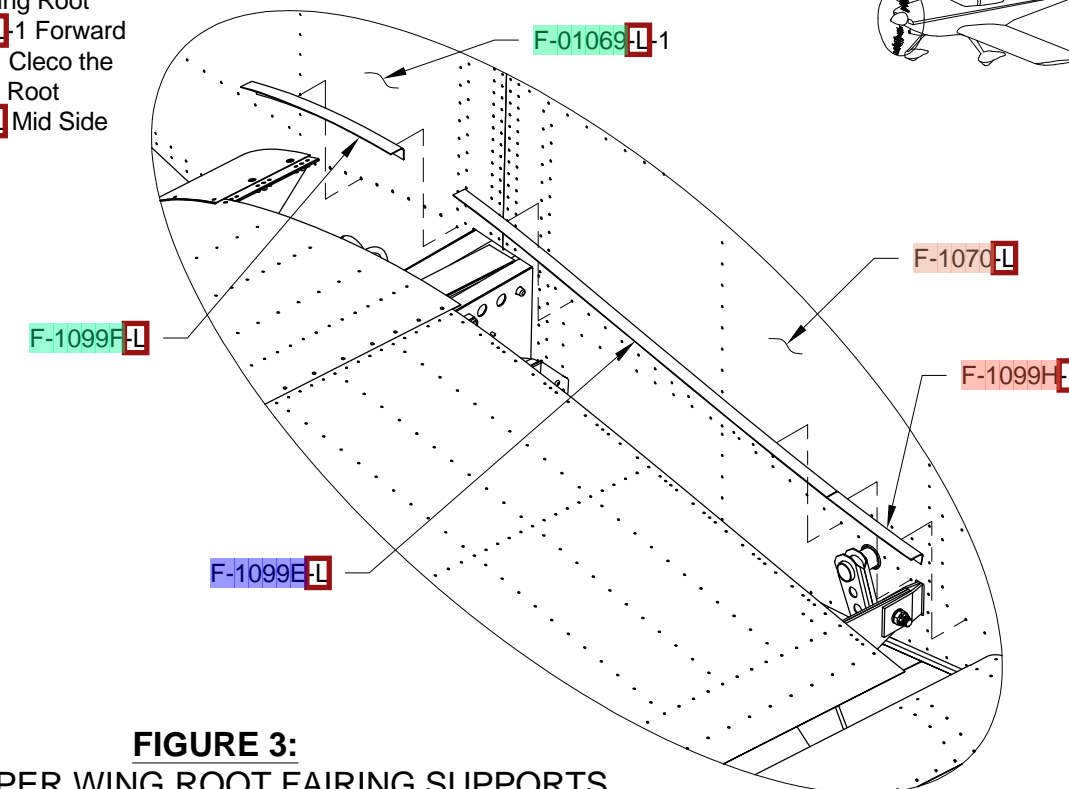

FIGURE 3: CLECO UPPER WING ROOT FAIRING SUPPORTS
Step 3: Cleco the F-1099F-L Wing Root Fairing Support to the F-01069-L-1 Forward Side Skin as shown in Figure 3. Cleco the F-1099E-L and F-1099H-L Wing Root Fairing Supports to the F-1070-L Mid Side Skin as shown in Figure 3.